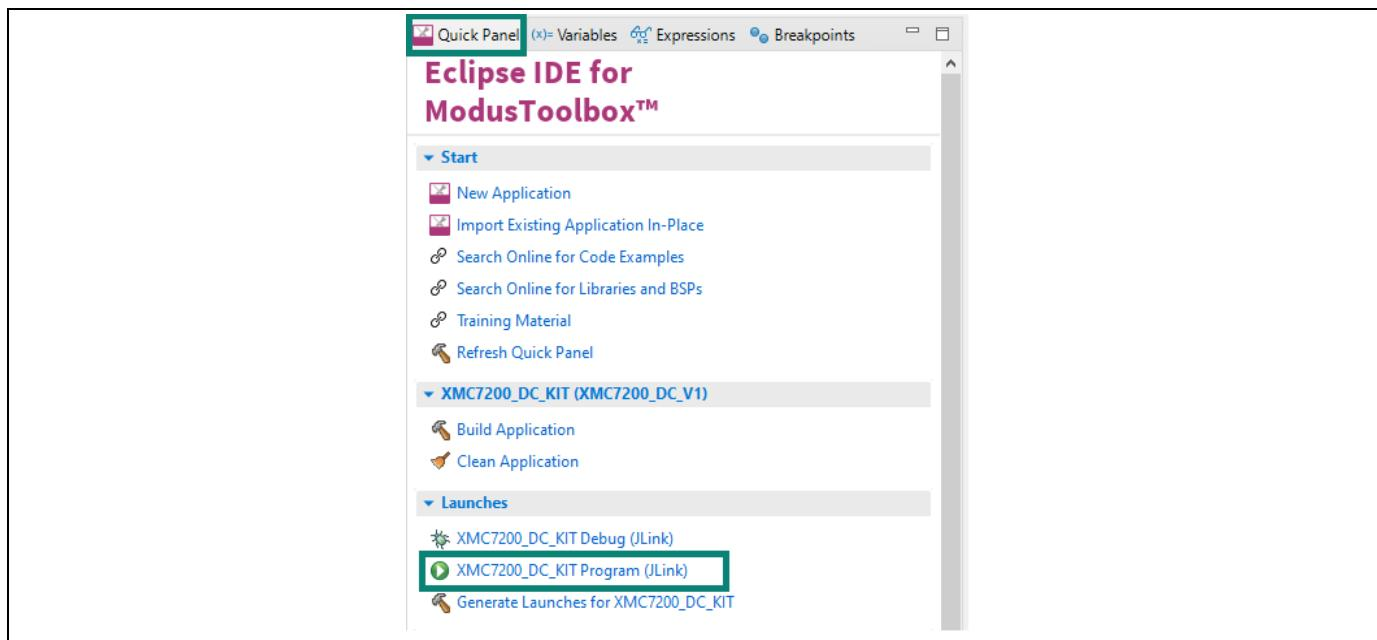

Figure 12 Programming in the ModusToolbox™ software
4. To build and program a XMC7200D application, in the Project Explorer, select <App_Name> project. In the Quick Panel, scroll to the Launches section and click the <App_Name> Program (JLink) configuration, as shown in Figure 12.